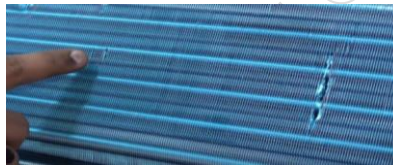

Fig. 1.31 Anticorrosive net
7. **Anticorrosive net** – This is a net made up of anticorrosive material for the protection of cooling coils and evenly spreading of temperature in the room. Figure 1.31 illustrates the Anticorrosive net installed in front of the evaporator coils.